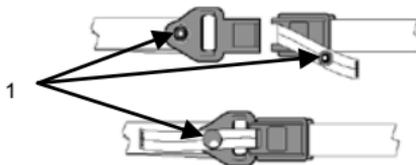

Figure 11. Snap Fastener on Release Lanyard.
7. Secure snap fastener on lanyard (Figure 11, Item 1).